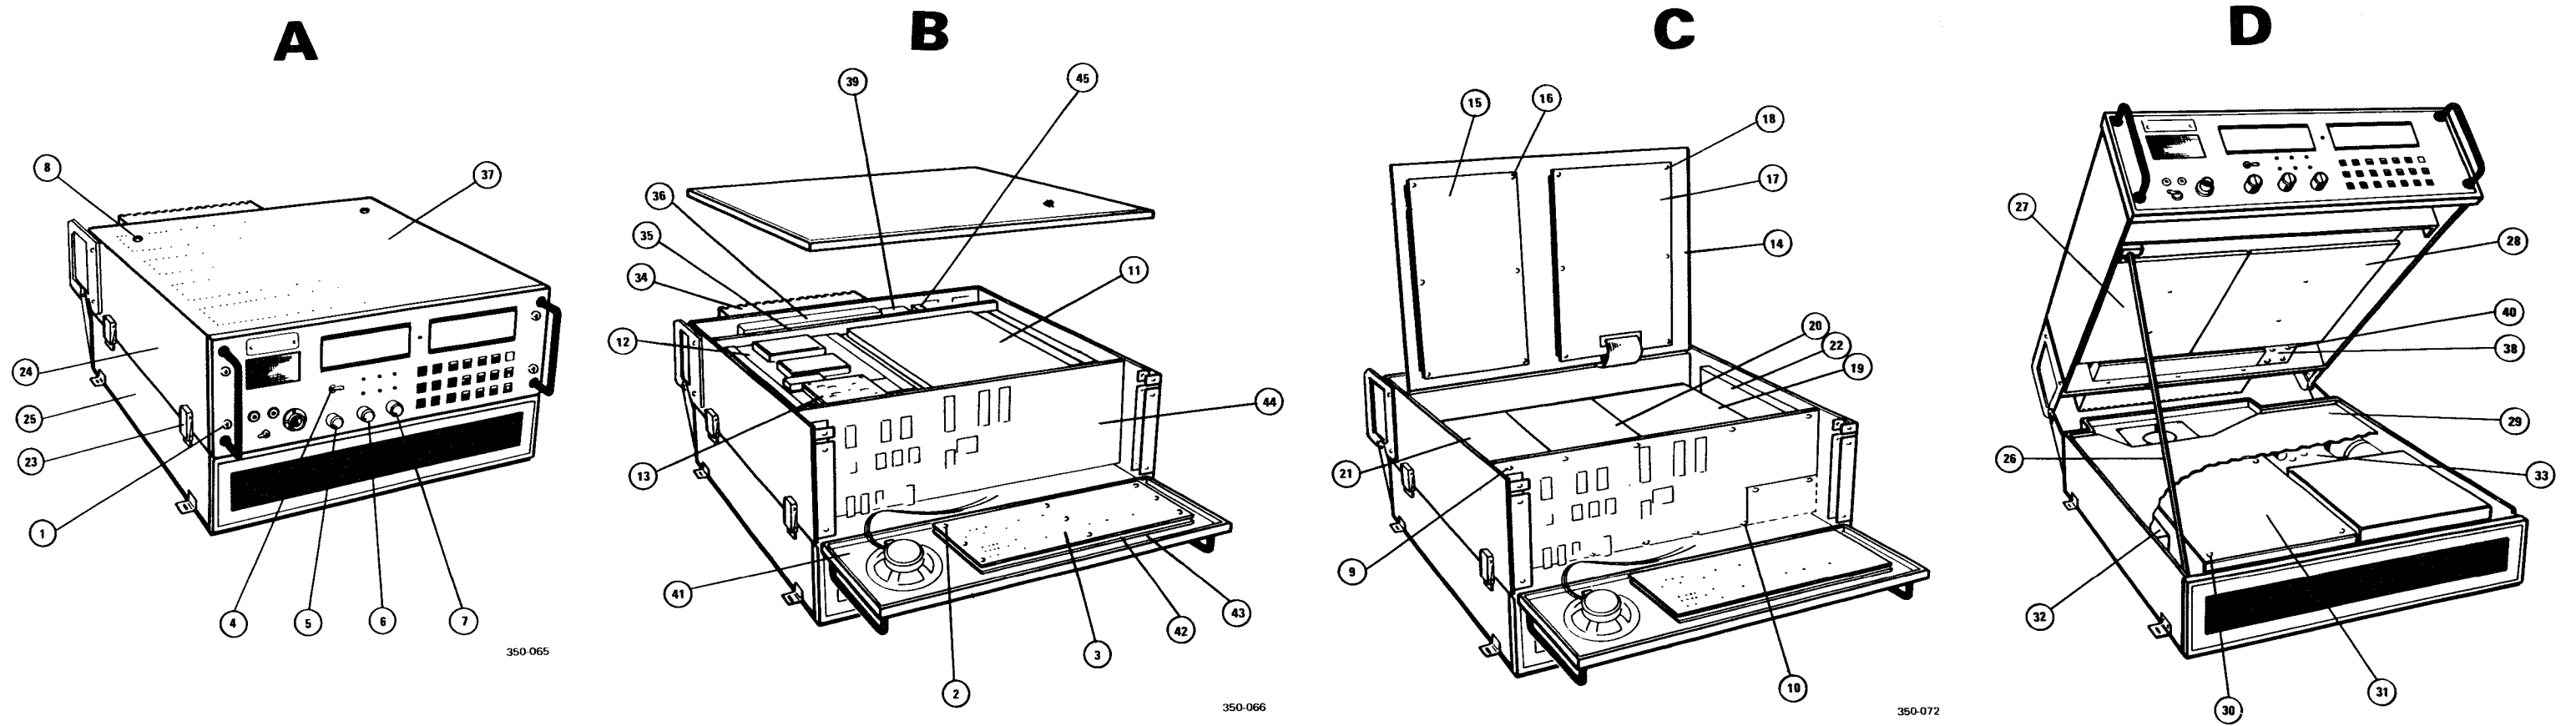

Figure 6-2. Assembly Removal/Replacement Location Chart
Refer to drawing figure 6-2 while doing the following procedures. This drawing has an apron which allows you to look at it while reading the procedures. The numbers in parentheses in the procedural steps correspond to the numbered items on the drawing. For example, "A4" refers to item 4 on view A.